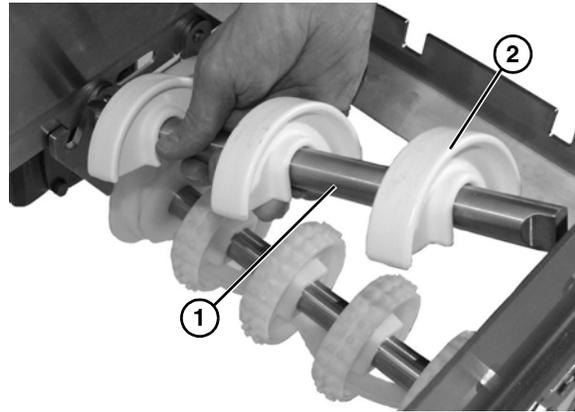

Figure 29
4. Remove belt return (Figure 29, item 1).
5. Remove and replace belt return shoes if worn (Figure 29, item 2).